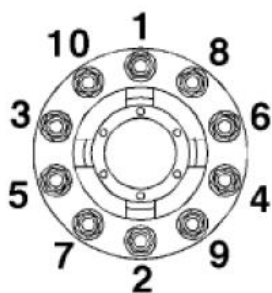

Figure 9
Be sure to tighten wheel nuts to the recommended nut torque. Do not overtighten. Tighten nuts first to 50 ft-lbs., then to 450-500 ft-lbs. torque (dry). Torque sequence should be per Figure 9.
For dual rear wheels, slide the inner dual wheel over studs, being careful not to damage the stud threads. Snug up the inner cap nuts to 50 ft.-lbs. in sequence shown in Figure 9. Do not tighten them fully until all have been seated. This procedure will permit the uniform seating of nuts and ensure the even, fact-to-face contact of wheels, hub and drum. Tighten to 450-500 ft.-lbs (dry) using the same criss-cross pattern.
Slide the outer dual wheel over the inner cap nuts and repeat the entire procedure using the same nut tightening sequence in Figure 9.
-  Be sure to tighten wheel nuts to the recommended nut torque. Do not overtighten. Tighten nuts first to 50 ft-lbs., then to 450-500 ft-lbs. torque (dry). Torque sequence should be per Figure 9.